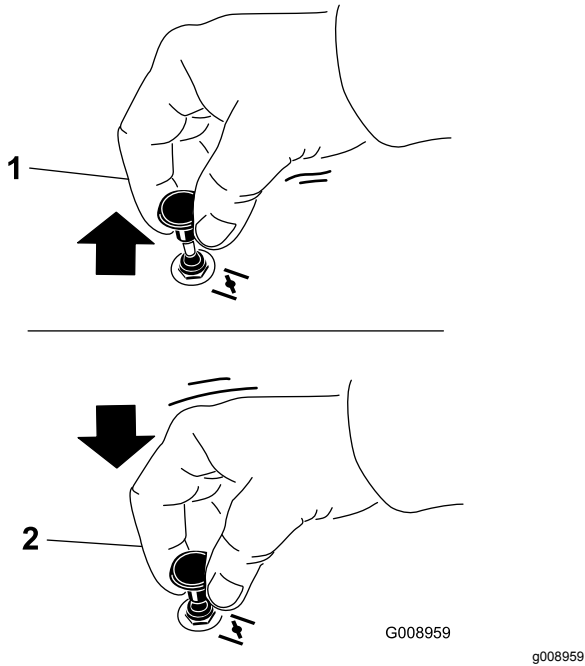

Figure 19
1. Pull up the choke knob to engage the choke before using the key switch (Figure 19).
2. Push down the choke knob to disengage the choke after the engine has started (Figure 19).